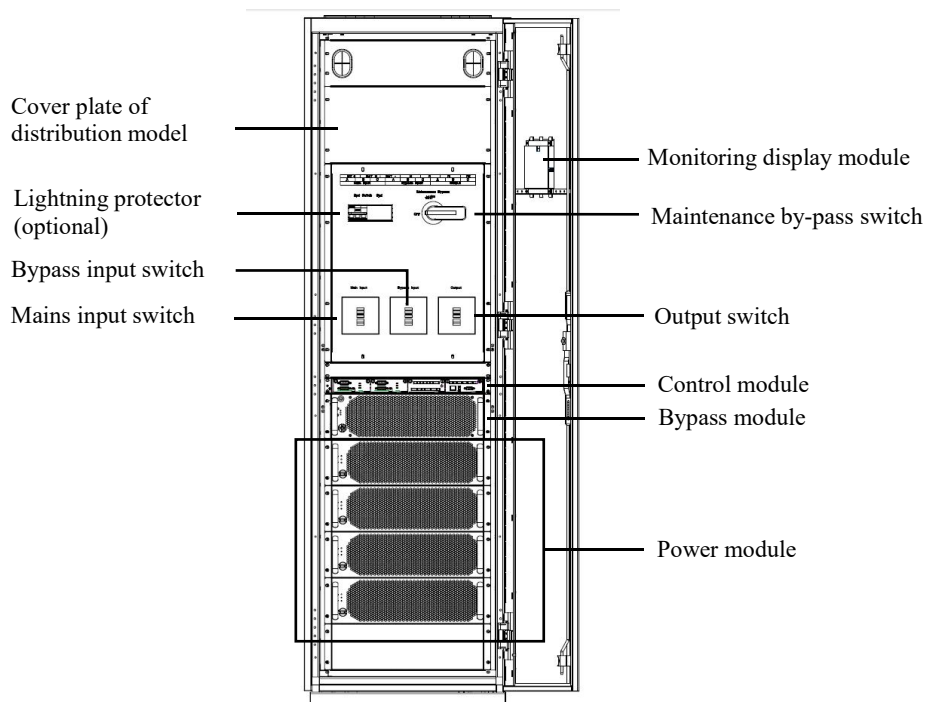

Fig. 1-5 Structure of 200kVA UPS (full-load)
2) The full-load structure of 200kVA UPS is shown in Fig. 1-5 in which the front door of the UPS is opened.